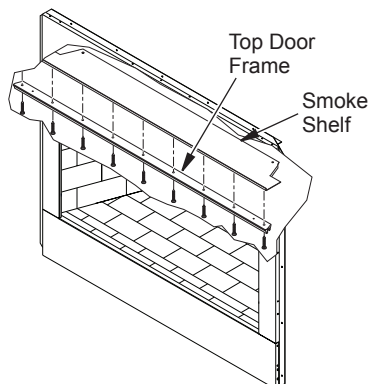

Figure 29 - Installing Top Door Frame
1. Remove screws from smoke shelf (see Figure 29).
2. Mount top door frame and secure with screws provided (see Figure 29).